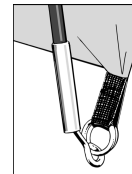

Figure 1.
- Locate the end of each long diagonal pole at the front of the tent into the metal pin system attached to the groundsheet. (see figure 1) Make sure poles locate into correct pin system (all poles follow corresponding flysheet seams to pin system). Loosen any tension straps attached to the pin system.
- Locate one end of each pole onto the corresponding metal pin. The metal pin inserts into the hollow metal ferrule on the end of each pole. **(See Figure 1)**. Push the pole into a curve from the opposite side, one at a time, and locate all pole ends onto the metal pins.